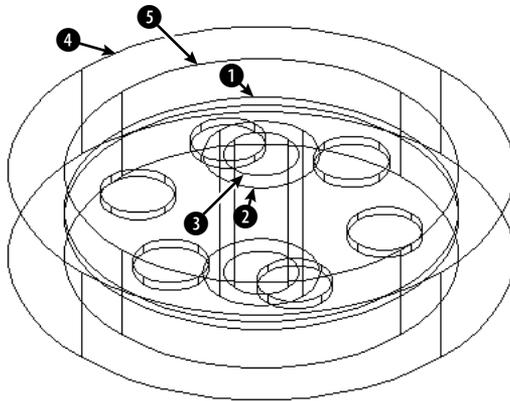

Figure 24-17: These solids are the basis for the model.
2. Save the file as *ab24-03.dwg* in your AutoCAD Bible folder. Make sure OSNAP is on. Set running object snaps for endpoint, midpoint, and center. This drawing is measured in millimeters. The solids have been created by drawing circles, using EXTRUDE, and moving the solids to the proper Z coordinate. The result is shown in Figure 24-17.
Select objects: *Select the central plate at 1 in Figure 24-17.*